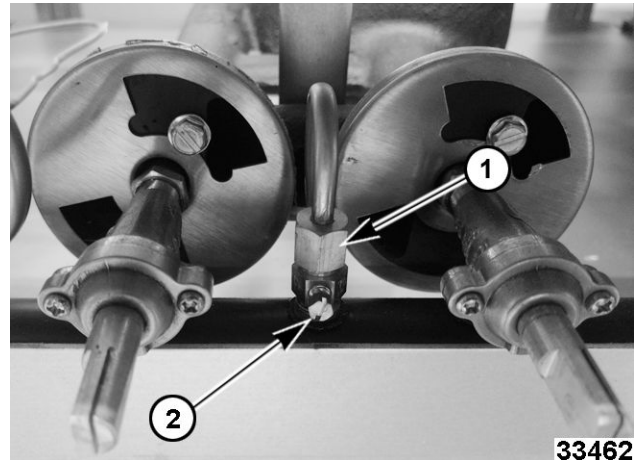

Fig. 21
2. Remove fitting (1, Fig. 21) securing pilot tube to pilot valve.
3. Unscrew pilot valve (2, Fig. 21) from manifold.